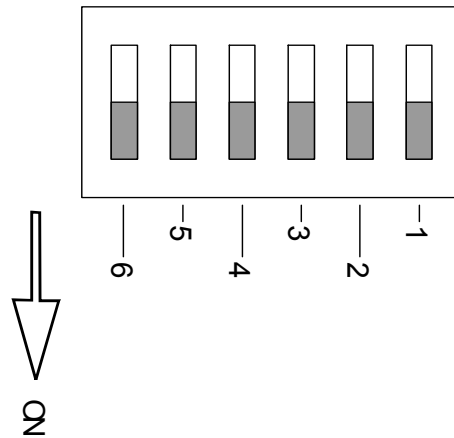

FIG. 4-5 TERMINATING CONTROLLER, ALL DIP SWITCHES SET IN THE ON POSITION
Step 8. If the controller is in a termination position (i.e. at the end of the communication line) set all the dip switches to the ON position. (See Fig. 4-5)